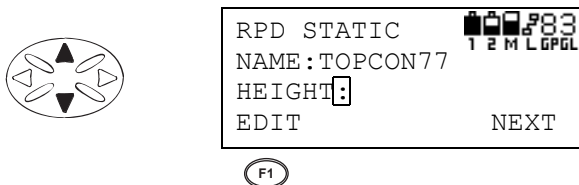

Figure 3-35. Enter Height Information
- Press the **up/down cursor key** to select the HEIGHT parameter (Figure 3-35). Enter the antenna height as described in “Selecting Parameters” on page 3-10.